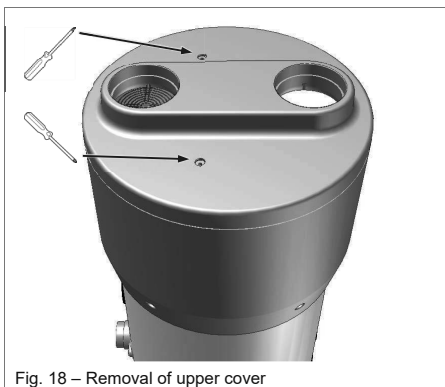

Fig. 18 – Removal of upper cover
- Remove the upper cover by undoing the appropriate locking screws (Fig. 18);